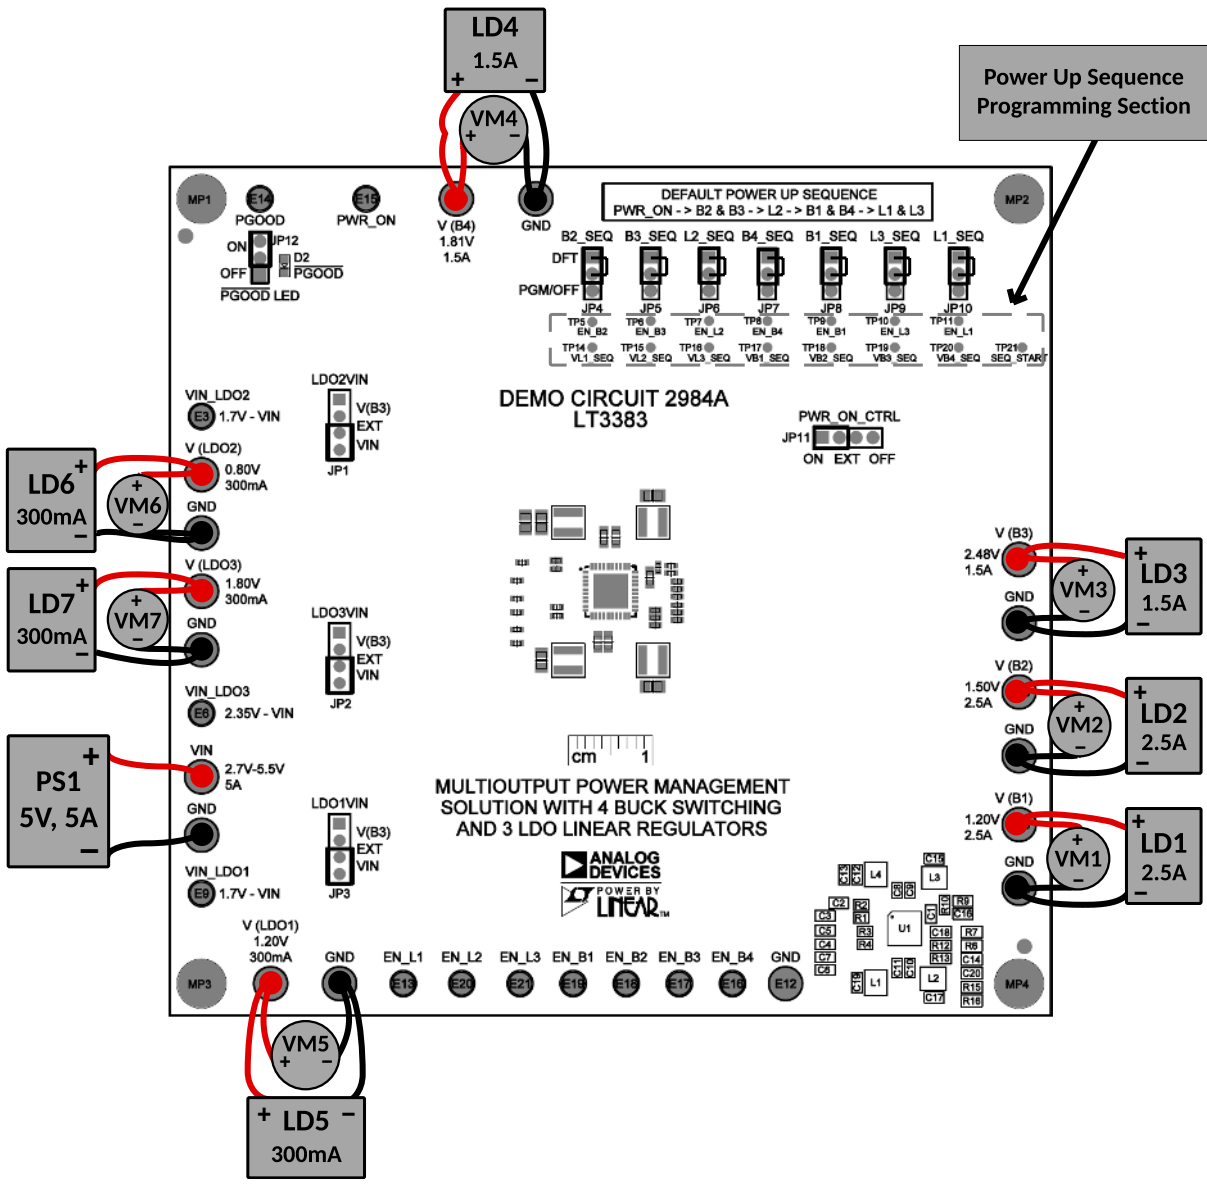

Figure 2. Test Setup for DC2984A Demo Board
1. Refer to Figure 2, configure the jumpers on the demo board as follows:
4. Set each electronic load to its corresponding current level indicated in Figure 2. Turn on each load. The PGOOD LED D2 should stay off, indicating all the outputs are still in regulation under loads. Note that if there are not enough electronic loads for all the regulators, this test can be done sequentially.
6. Optional: The power up sequence can be programmed by configuring JP4-JP10 to PGM/OFF. Referring to Power Up Sequence Programming Section shown in Figure 2, connect the SEQ_START (TP21) to the enable test point of the first regulators to power up. Then connect the subsequent regulators enable test points (TP5-TP11) to the corresponding VX_SEQ (TP14-TP20) according to the desired startup sequence. If the enable test point of a regulator is not connected and the jumper is at PGM/OFF position, this regulator is turned off.
The DC2984A has a default power up sequence. User can also program the power up sequence by selecting JP4-JP10 to PGM/OFF position and connecting the output rails to the enable pins at the Power Up Sequence Programming Section shown in Figure 2. The start of the sequence is the rising edge of the PWR_ON pin. PWR_ON pin can be pulled up to VIN, pulled down to ground, or connected to an external command source by selection JP13, PWR_ON_CTRL jumper.